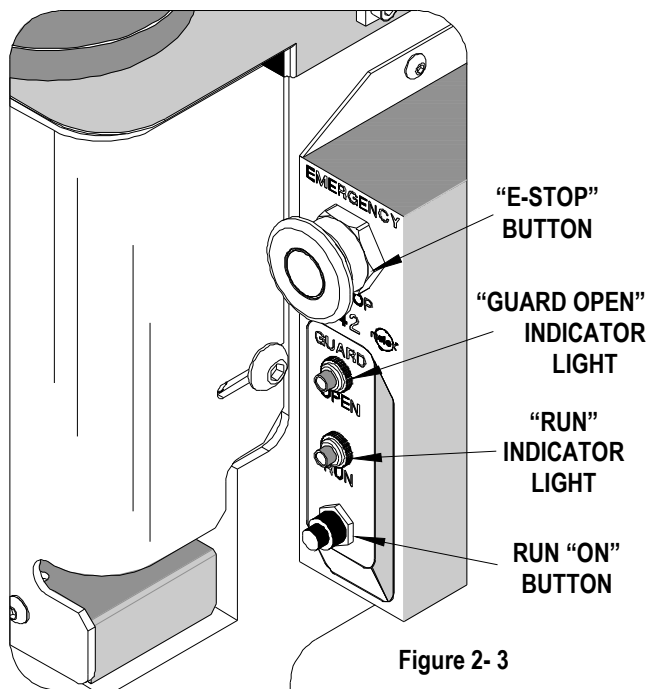

Figure 2-3
Never operate in areas of excess moisture or water. Check that all safety guards are in place. NEVER operate this press without press guards in place. The guard indicator light is located on the front of the press control assembly. See Figure 2-3.
5. Check that the press position is located approximately 150.00mm (6 .00") from the edge of the bench. A chair or stool with adjustable height and backrest should be provided for maximum comfort and back support for the operator. Observe where the emergency stop button is on the control panel. See Figure 2-3.